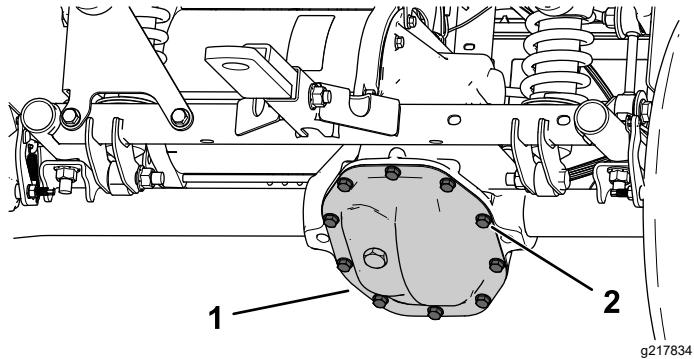

Figure 52
1. Align a drain pan under the transaxle cover (Figure 52).
2. Remove the bolts from the transaxle cover and drain the fluid completely (Figure 52).